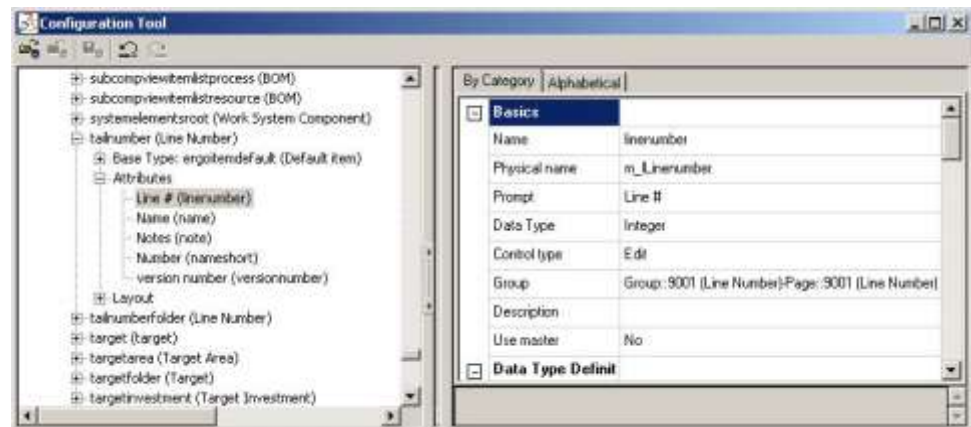

Figure 68: Select Linenum
- 2) Open the linenum attribute, *Please refer to the Figure 68.*